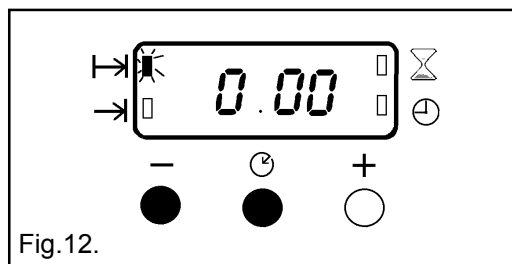

Fig.12.
- i) To cancel an automatic programme press the Selector Control button until the 'Cook Time' indicator (T→) neon flashes. Press the decrease control (-) until the display reads 0.00 as Fig. 12.